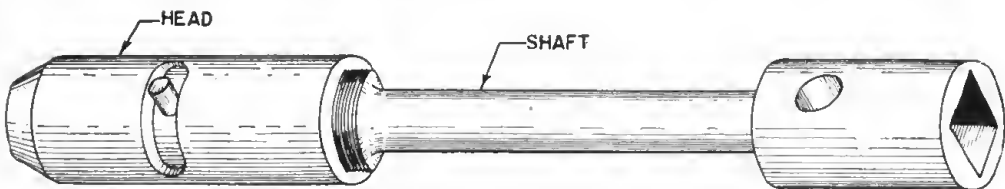

Figure 23. Stud-installing wrench.
(2) A stud-installing wrench consists of a head tapped to fit the fine threads of the stud bolt, and a shaft machined to fit a socket handle on one end, having coarse threads which screw into the head of the wrench on the other. A recess is machined in the head, leaving an opening of about 90° . A pin is driven through this recess into the shaft. Therefore the head of the wrench can be turned only 90° on the shaft. Turning the head 90° gives it a slight longitudinal movement since it is threaded on the shaft. (See fig. 23.) To install a stud, it is first screwed into the head of the wrench until it strikes the end of the shaft. The other end of the stud is then screwed into place, using a socket handle to turn the wrench. When the stud is tightened with the proper torque the shaft of the wrench is turned counterclockwise. As the shaft turns 90° in relation to the head it is freed from the end of the stud. The wrench can then be easily removed.